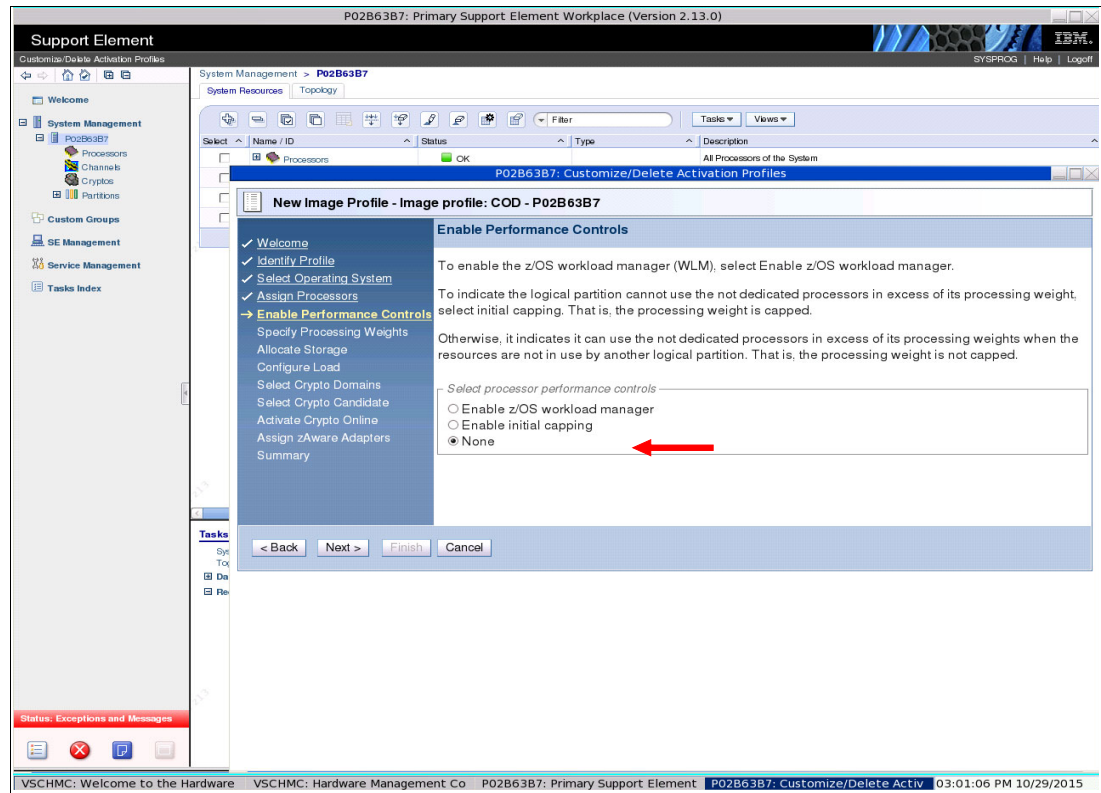

Figure 5-35 Enable performance controls
7. For Enable Performance Controls, we use the default value for the COD z/OS driving system LPAR and select **Next**, as shown in Figure 5-35.